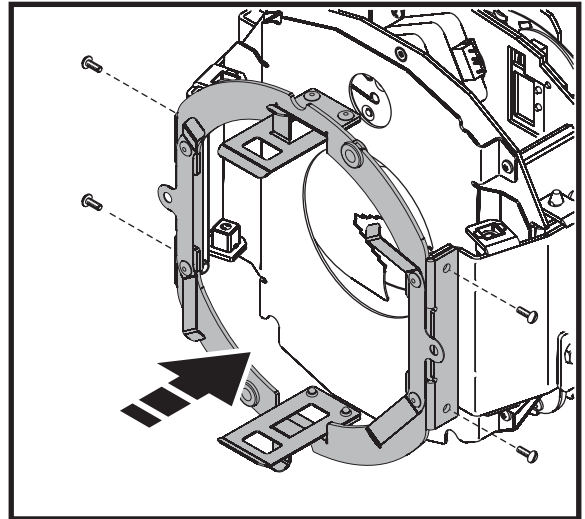

Figure 3
5. See Figure 3. Fasten the new front lens mounting bracket (P/N 62420240) supplied in the Kit to the front of the head using the four M4 X 12 Torx 20 screws (P/N 08070710) also supplied in the Kit. Apply a very small quantity of Loctite to the threads before tightening the screws.